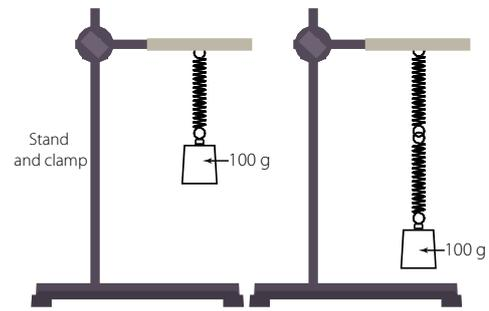

Figure 1
4. Now connect two springs in series (see Figure 1) and repeat the process above.